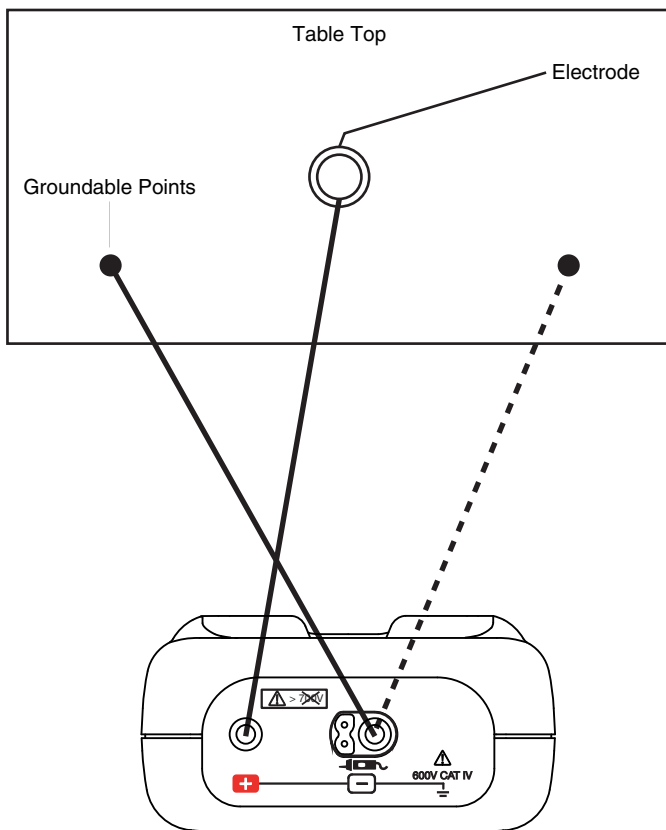

Figure 6
4. Repeat this procedure with the Model 6536 connected between one weight and a known electrical ground (Figure 6).
- Resistance from test electrode to a groundable point (Figure 6): Measured value: $\leq 10,000\text{M}\Omega$ ($10\text{G}\Omega$)